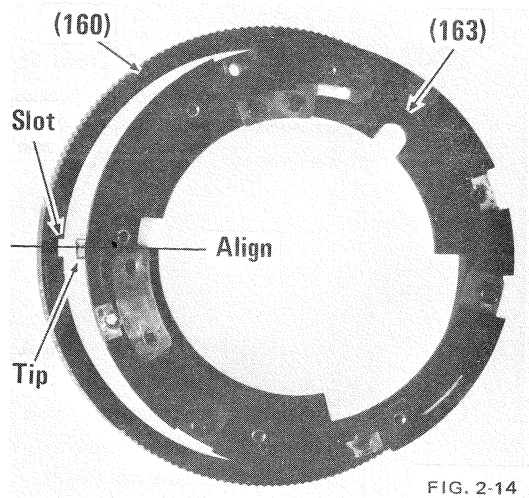

FIG. 2-14
i) Separate the aperture ring from the mount frame, noting that the tip of the cam ring fits into the slot in the aperture ring. Fig. 2-14.